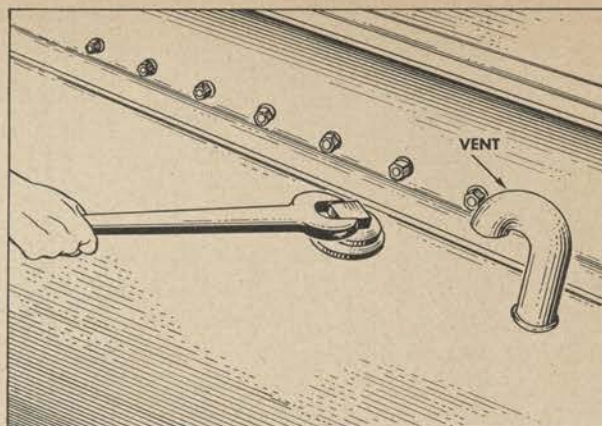

Figure 51. Checking barge section for leakage.
w. INSPECTION AFTER LAUNCHING. (1) After launching, remove the 4-inch deck plugs and inspect each barge section for leakage, using a flashlight. (See fig. 51.)